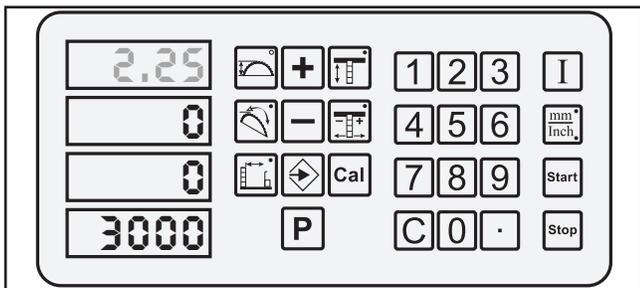

Figure 12. First entry.
2. Use the number keys to enter the blade height (Figure 12).